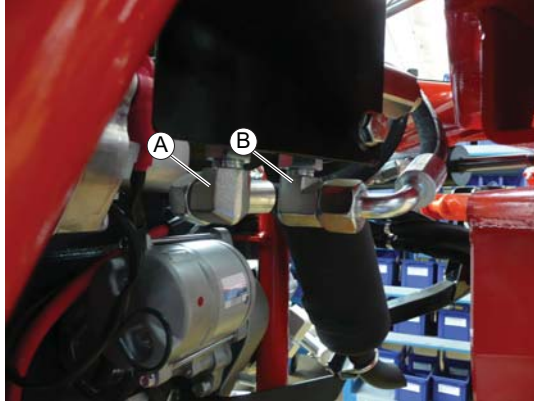

Figure 10
16. On the bottom face of the flushing valve, install and secure elbows 158007-01 and orientate as shown in Figure 10.